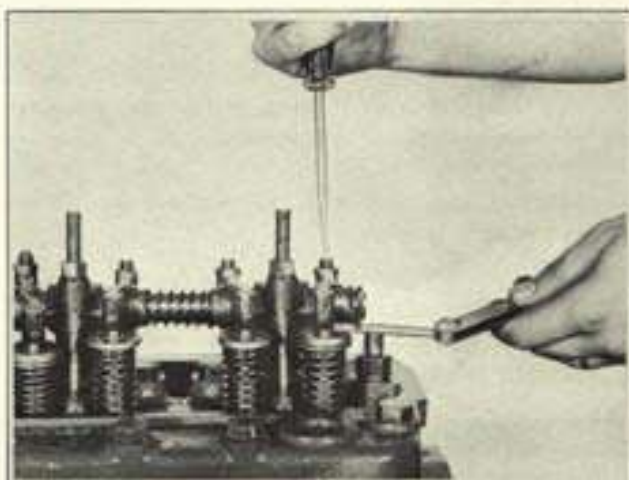

Figure 2-4 Valve Clearance Adjustment
2. Loosen the lock nut on the rocker arm adjusting screw, and insert a feeler gauge of the correct thickness between the valve stem tip and the rocker arm contact button. (See Figure 2-4.) Turn the adjusting screw as required until the feeler gauge will just slide in and out of the gap. Tighten the lock nut and recheck the adjustment.